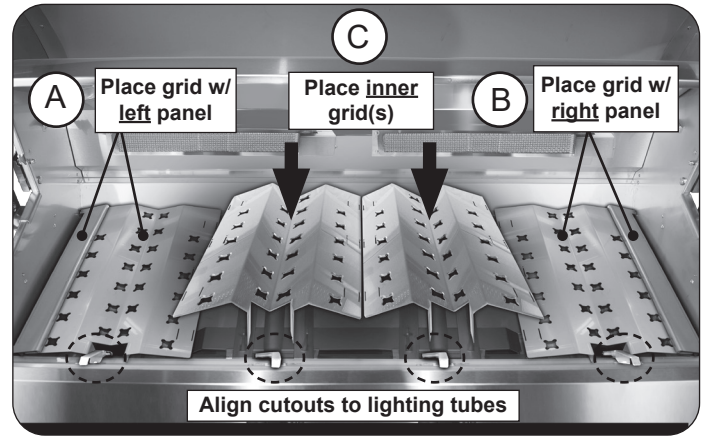

Fig. 25-1 Install flavor grids
1. Locate the flavor grid with the pre-attached **left panel** (see Fig. 25-1, A).
2. Carefully rest the grid onto the rear and front flavor grid rests while ensuring the flavor grid cutout clears the left-most lighting tube. See Fig. 25-1, A.
3. Locate the flavor grid with the pre-attached **right panel** and place it on the right side of the grill (see Fig. 25-1, B).
4. Take the remaining inner grids and carefully place them between the left and right flavor grids (see Fig. 25-1, C).